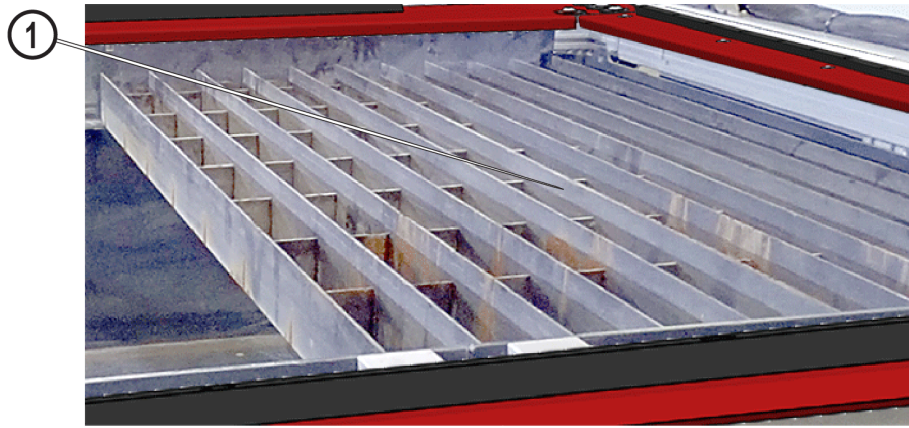
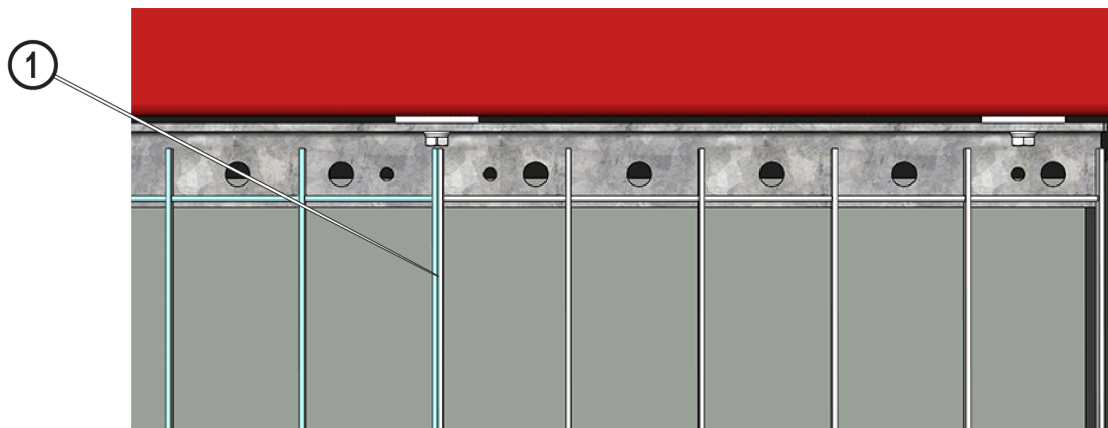

Figure 17
Figure 18
4. Place the subsequent **slat grates** next to each other with **no gaps** [1] in between (Figure 17) and (Figure 18).